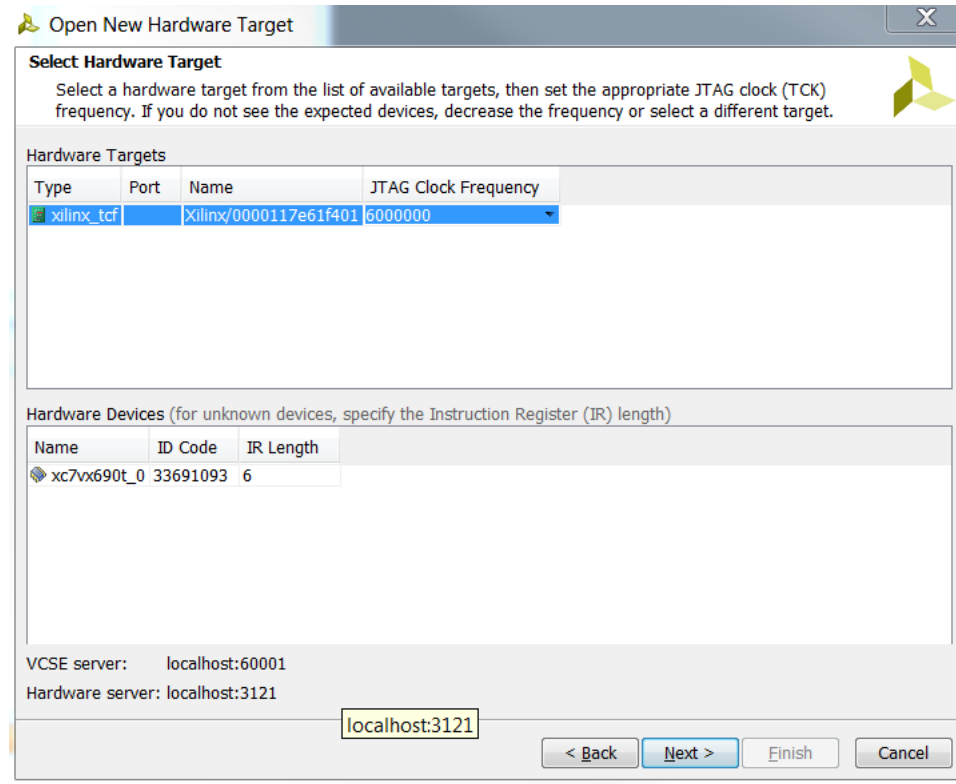

Figure A-6: Select Hardware Target
7. Select **xilinx\_tcf** for the hardware target and click **Next** (see Figure A-6).